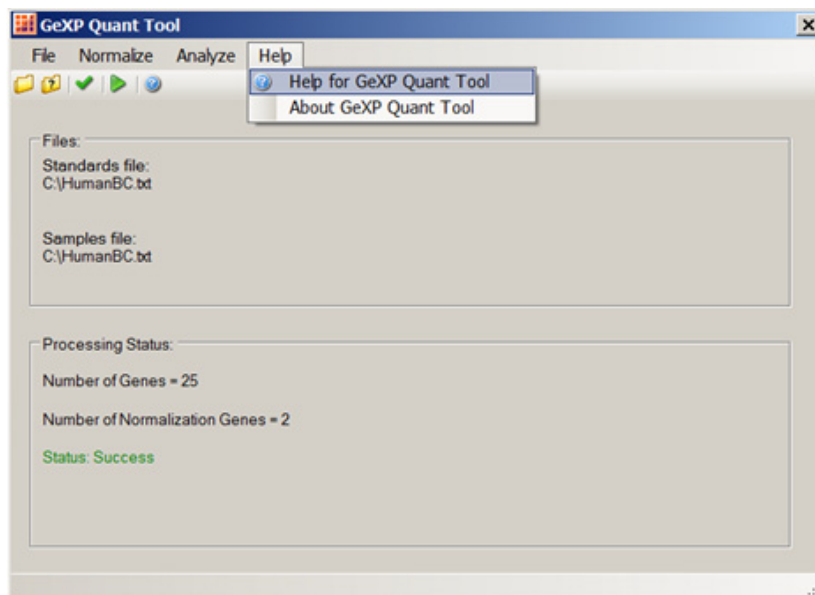

Figure 7.45 Accessing Help for GeXP Quant Tool
10. If any errors occurred, open “Help” as shown in Figure 7.45 to determine the possible root cause of the errors.